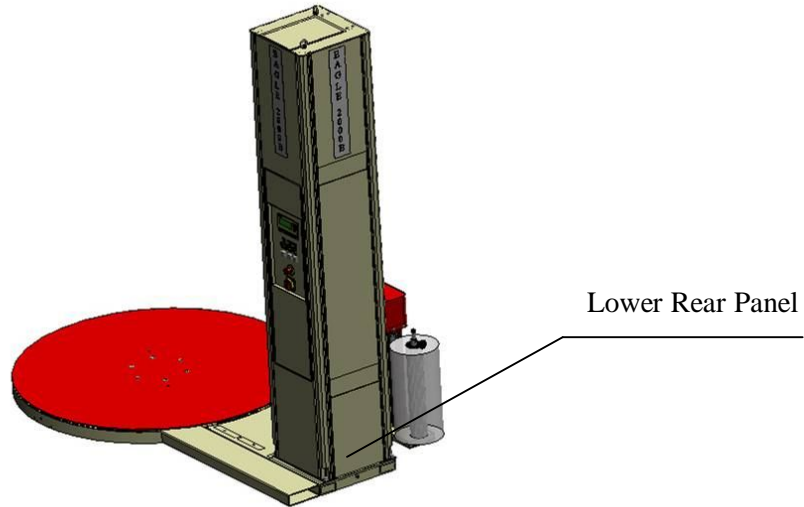

Fig 2-10
7. Fasten the lower rear panel into the corresponding position on the post using the pin (Fig 2-10)